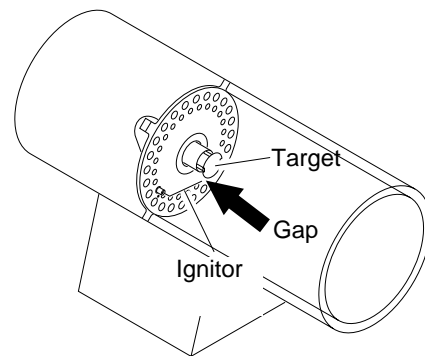

Figure 15 - Clearance between Ignitor Electrode and Target Plate
- Set gap between ignitor electrode and target plate to .17" (4.3 mm) (see Figure 15).